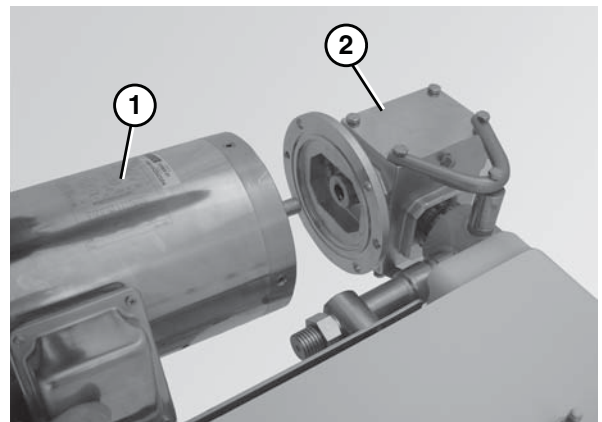

Figure 32
6. Detach the motor (Figure 32, item 1) from the gear reducer (Figure 32, item 2).